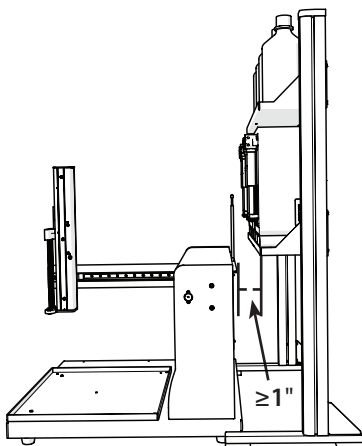

Figure 5: System Organizer with Proper Clearance (Side View)
1. Place the organizer just behind the top cover of the GX-27X instrument. Ensure about an inch of clearance between the bottom shelf and the cable support rod on the back of the GX-27X (Figure 5).